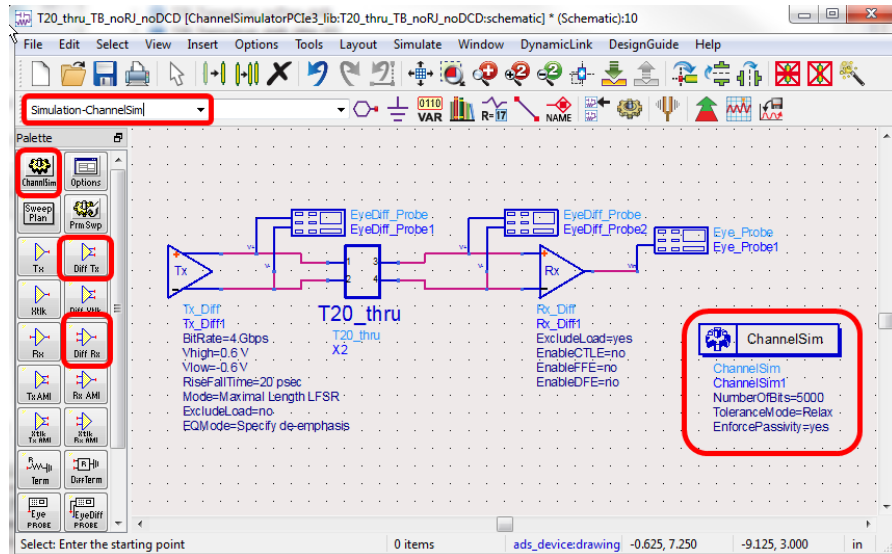

Figure 18 The Schematic Diagram of The Channel Simulation with TX and RX
The second fundamental ADS example for the channel simulation is including practical TX and RX that account for random jitter (RJ). Place the *Diff Tx* and *Diff Rx* from *Simulation-ChannelSim* library, as shown in Figure 18.